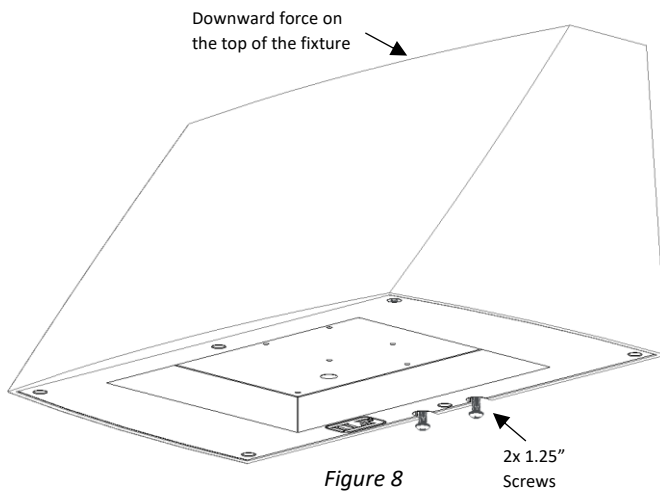

Figure 8
7. While applying a downward force to the top of the fixture, tighten the two screws on the bottom simultaneously (Figure 8).